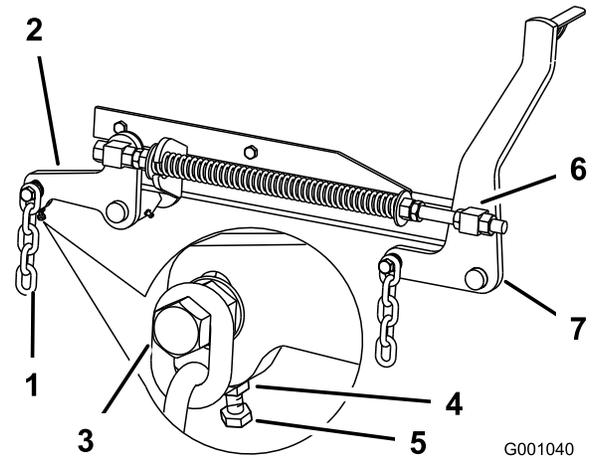

Figure 104
8. If the measurements at positions **B** or **C** are not correct, loosen the bolt attaching the rear chain to the rear-support arm (Figure 104).
8. Loosen the jam nut under the rear-support arm and adjust the adjustment bolt to get a measurement of 80 to 83 mm (3-1/8 to 3-1/4 inches); refer to Figure 104.
7. Loosen the front swivel jam nuts, at the front of the right and left swivels, approximately 13 mm (1/2 inch) (Figure 104).
8. Adjust the lift nuts on both the left and the right side of the machine to achieve 6 to 10 mm (1/4 to 3/8 inch) lower in front at **A** than in the rear at **B** (Figure 104).